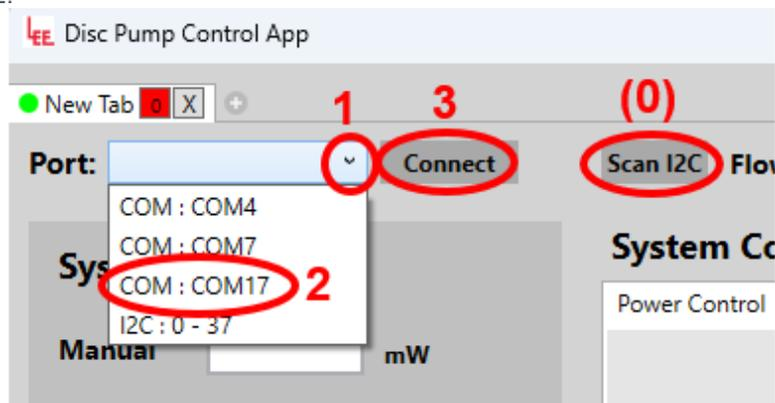

Figure 40 Connecting a driver board to the Disc Pump Control App
- Select the appropriate COM port from the top-left dropdown menu and click connect as shown in Figure 40. The COM port can easily be found by plugging and unplugging the kit and observing which COM port appears and disappears.
- If using a Smart Pump Module connected over I2C click the Scan I2C button on the top left. Once the scan is completed you can access the I2C devices from the Port dropdown menu and click connect as shown in Figure 40.